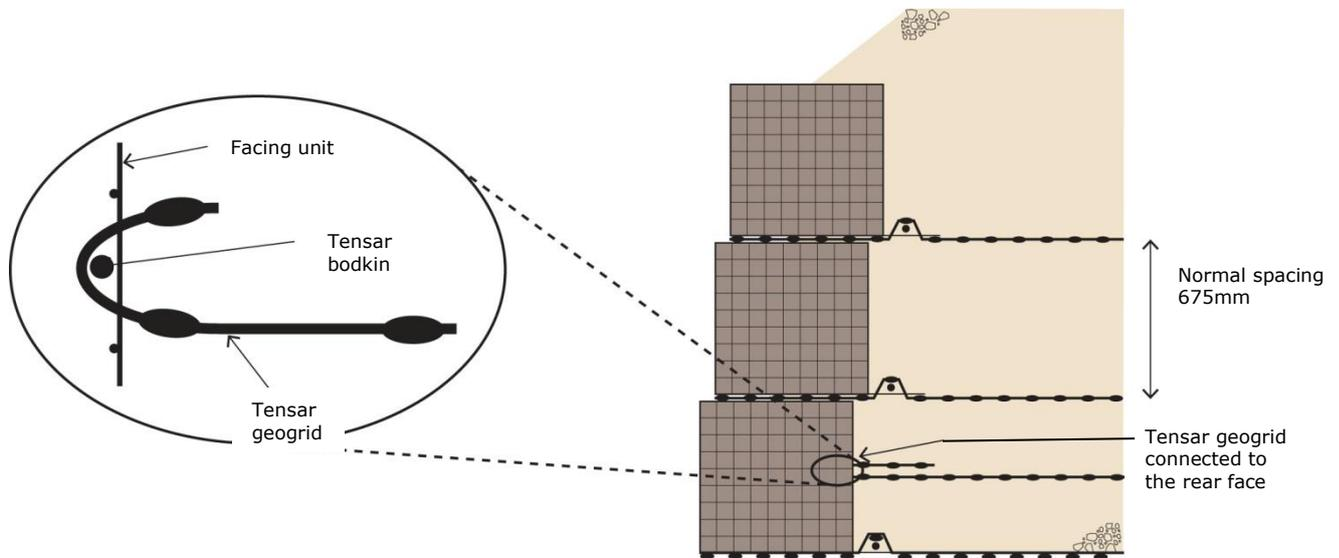

**Figure 5 – Stepping down the fill at the end to avoid distortion**
21. If a complete run of facing units is not positioned and/or filled in one phase, then always step down the filling at the end otherwise facing unit distortion will occur. This also allows further facing units to be connected later (refer to Figure 5). At no time try to completely fill one cell at a time, unless the unit has internal bracing in both directions.